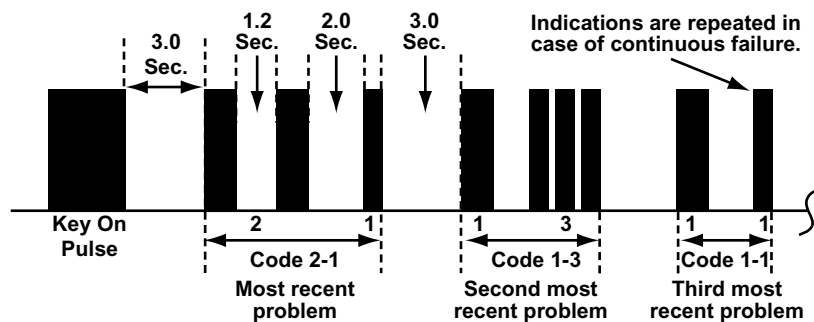

Figure 8-44 Honda SRS Code Type 06 - Continuous Failure, SRS indicator blinks like this
- Type 06 with a continuous failure, see Figure 8-44 and Table 8-13 on page 86